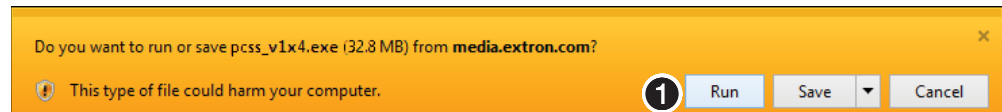

Figure 12. Download Warning and Confirmation
5. Click **Log in** to copy the software or firmware to the computer (❷).
6. If your browser asks you to confirm that you want to continue (see figure 12), click **Run** or make a similar confirmation (❸).
NOTE: Figure 12 may appear different or may not appear at all, depending on your Web browser choice and its security settings.
7. Click **Run** to confirm that you want to run the installation (see figure 12, ❸).